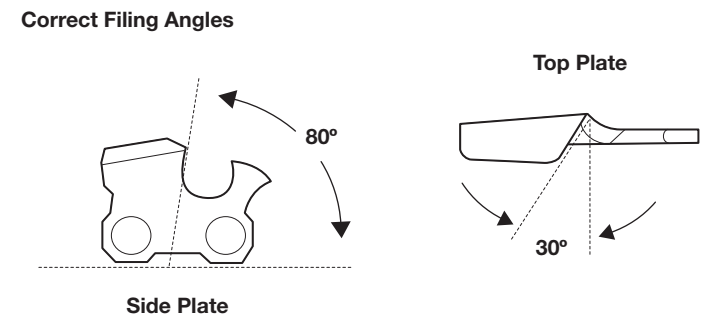

Fig. 33
- Apply a few firm strokes to each tooth. When filed correctly, the top plate will be at a 30° angle and the side plate will be at an 80° angle (Fig. 33). Using the correct file and file holder will automatically produce the correct angles.